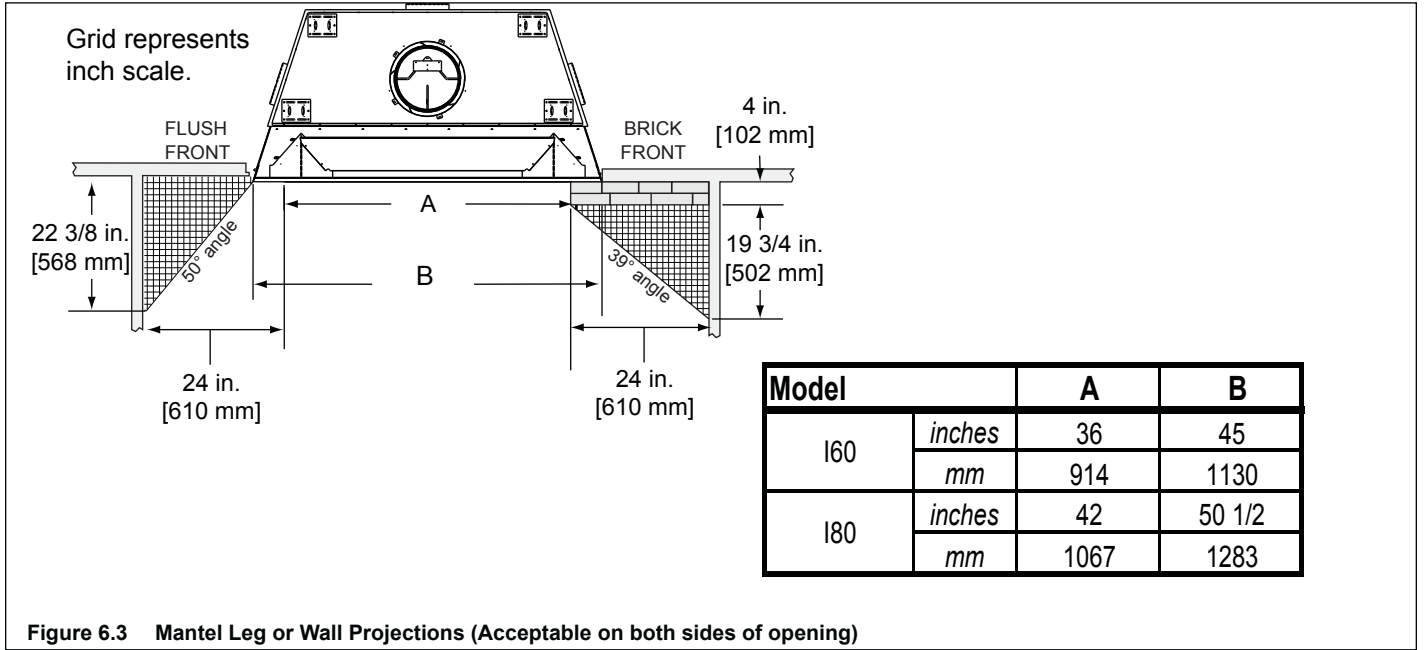

Figure 6.3 Mantel Leg or Wall Projections (Acceptable on both sides of opening)
- Combustible and noncombustible mantel legs, surrounds and stub walls may be constructed within the gridded area, Figure 6.3.